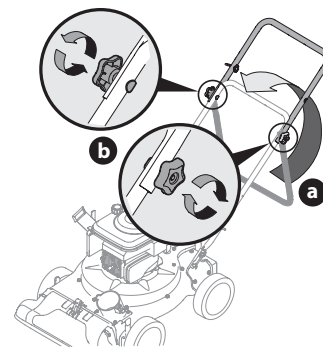

Figure 2
2. Unfold the upper handle until it aligns with lower handle. Make sure the rope guide is on the right side of upper handle. See A in Figure 2.
3. Secure the two handles by tightening the star knobs (carriage bolts must be seated properly into the handle). See B in Figure 2.